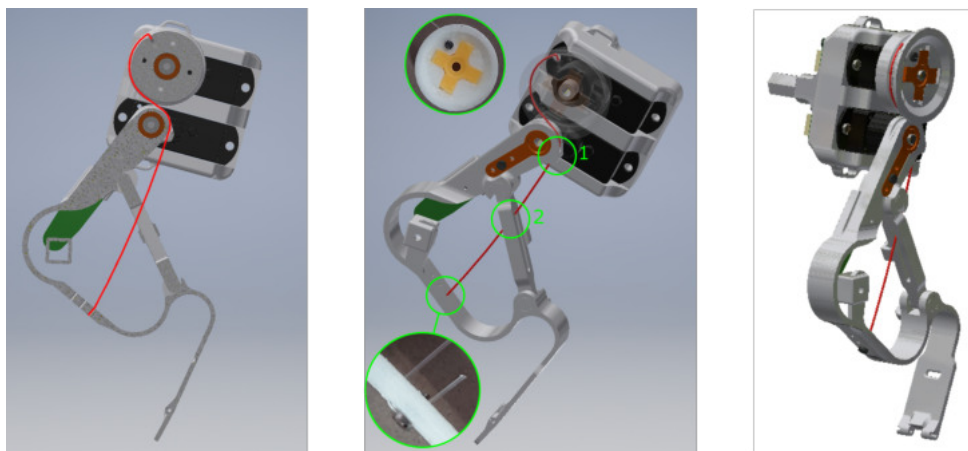

Fig. 25. Stringing of the hindleg.
To string the hindleg tendon first attach the tendon on the shin of the leg as shown in the middle bottom on Figure 25 with a M1x3 screw. Then thread the tendon through the linkage (2) and the hole on the top of the leg (1) and onto the coil as shown in the figure. The tendon can then be tightened through the hole in the coil and fixed with a M1x4 screw.